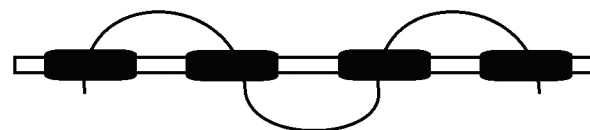

Fig. 1
2. Weave the cable through the eyelets of the cover in an over/under pattern as shown (Fig. 1).